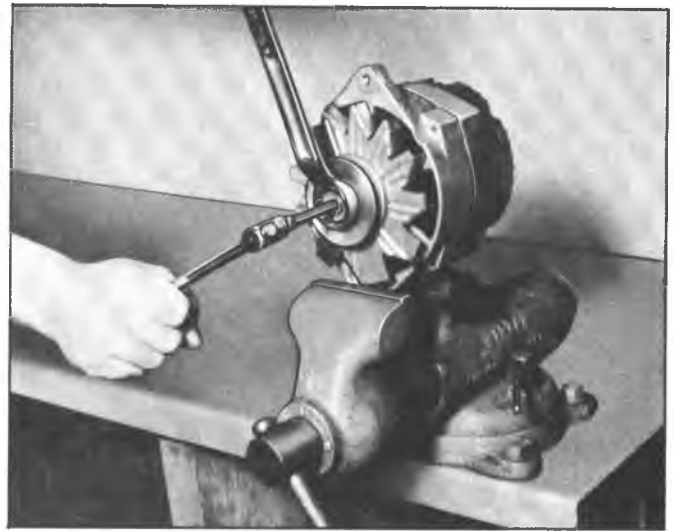

Fig. 2C-Removing Pulley
- a. Single groove pulley--place 15/16" box wrench on the shaft nut and insert a 5/16" allen wrench into the shaft end hole to hold the shaft while removing the nut (fig. 2C).